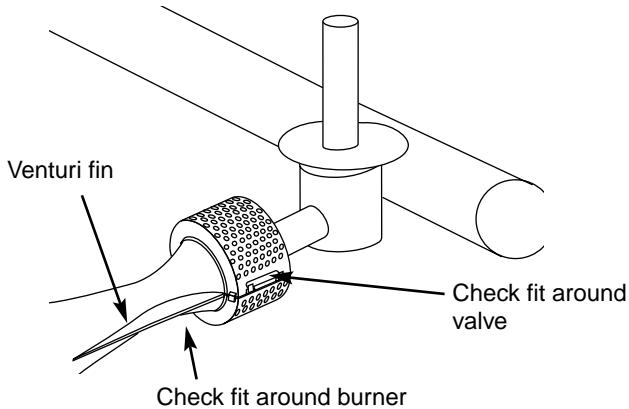

Figure 16
i) Reinstall the Spider Stopper Guards. Slightly rotate the Spider Stopper Guards so that the seams are in line with the Venturi fins. There should be no gaps in the seams or in the fit around the burners and valves. Figure 16.